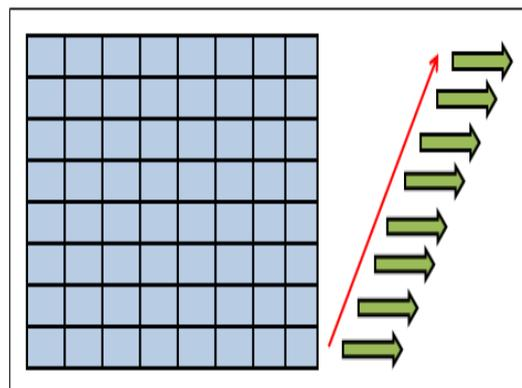

Figure 11-16 Bottom to top readout
- Bottom to top readout (Figure 11-16): The data is readout from the bottom to the top line.